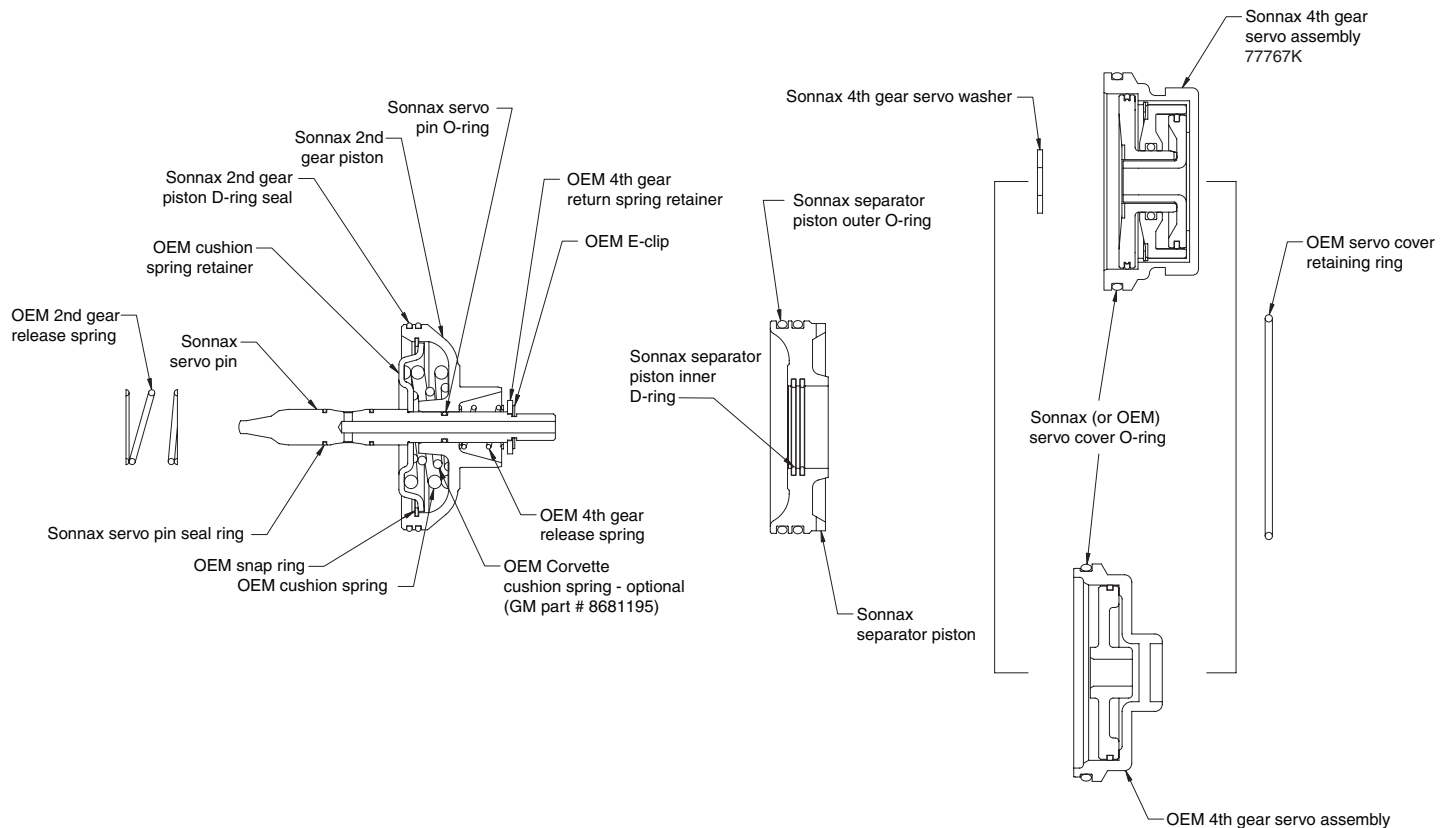

Figure 1
- 3) Assemble the Sonnax 2nd gear servo, separator piston and pin as shown in Figure 1. Do not install any seals at this time. Make sure the 2nd gear release spring is on the pin.